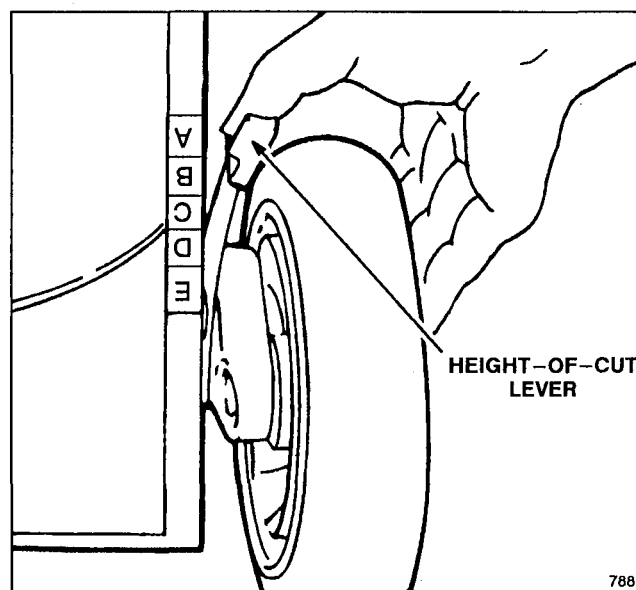

Figure 12
3. Squeeze the mower's height-of-cut lever toward the wheel and move it to the corresponding color/letter on the mower housing (Fig. 12). For easier adjustment, lift housing up so wheel is off ground. **Do not put fingers under housing when lifting.** Ensure pin on height-of-cut lever engages slot in housing. Adjust all wheels to the same color/letter setting.